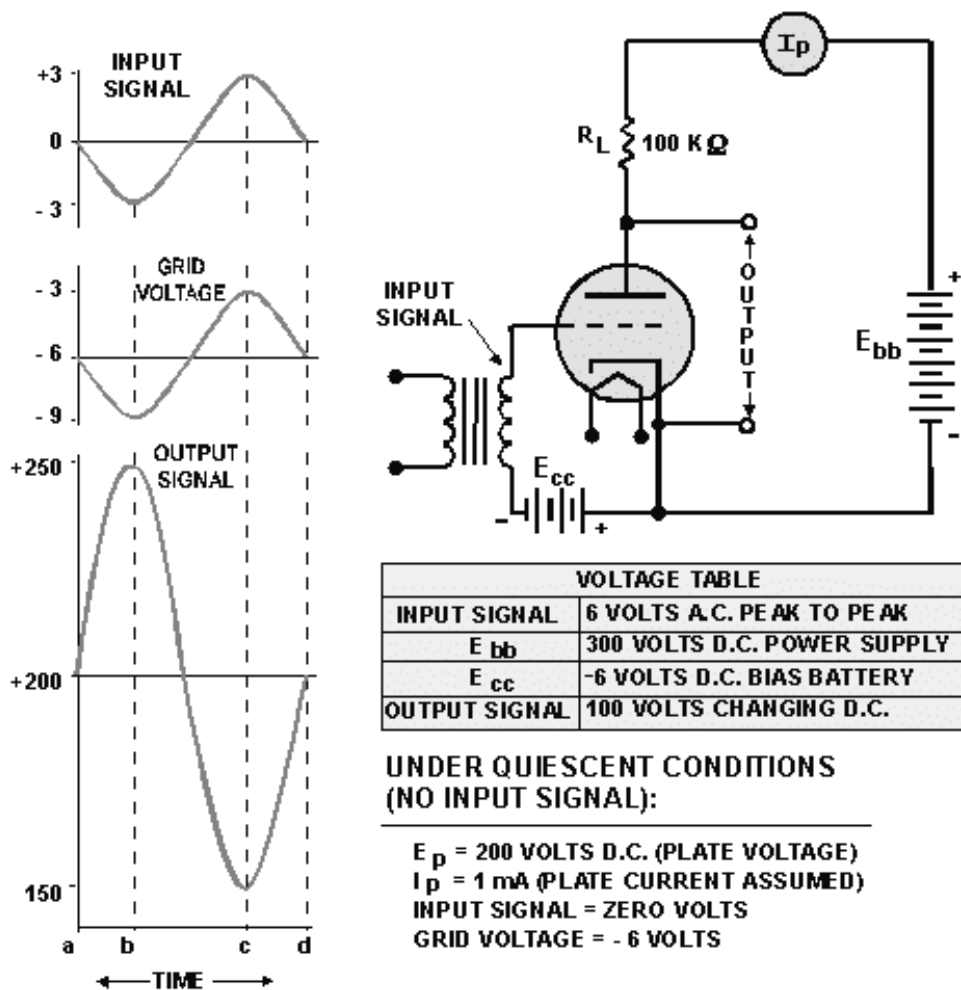

Figure 1-19.—Triode operation.
The circuit in figure 1-19 brings together all of the essential components of a triode amplifier. Before analyzing the circuit, however, we need to define the term **QUIESCENT**.
Simply, quiescent describes circuit conditions when the tube is not amplifying. The tube has no output signal and is in a kind of standby, waiting condition. Now let's go on to figure 1-19. With no input signal, under quiescent conditions, assume that 1 milliampere of current flows through the tube, cathode to plate. This current (I_p) will flow through R_L (load resistor) to the positive terminal of the battery. The current flowing through R_L causes a voltage drop (IR) across R_L equal to:
These values are shown on the waveforms as time a in figure 1-19.
Before going on to the next section, there is one more thing of which you should be aware. Look again at the waveforms of figure 1-19. Notice that the output voltage of the amplifier is 180° out of phase with the input voltage. You will find that this polarity inversion is a characteristic of any amplifier in which the output is taken between the cathode and the plate. This is normal and should not confuse you when you troubleshoot or work with this type of circuit.
- Q18. A triode amplifier similar to the one shown in figure 1-19 has an E_{bb} -350 volts dc. The plate-load resistor is 50 k Ω . Under quiescent conditions, 1.5 milliamperes of current conducts through the tube. What will be the plate voltage (E_p) under quiescent conditions?*